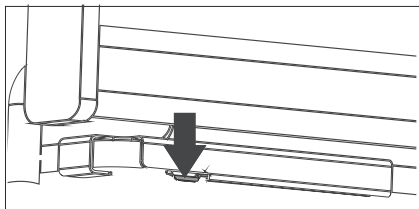
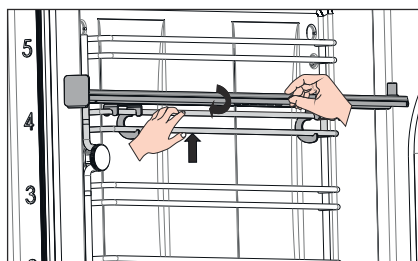

Fig. 19
Fig. 23
To remove the telescopic rail from the wire rack, remove it by pressing on the tab specified with an arrow on the telescopic rail (Fig. 19).
Press the wire rack upwards with one hand and with the other hand turn the telescopic rail and remove it (Fig. 23).
2. → Remove the telescopic rail (Fig. 19 /Fig. 23).